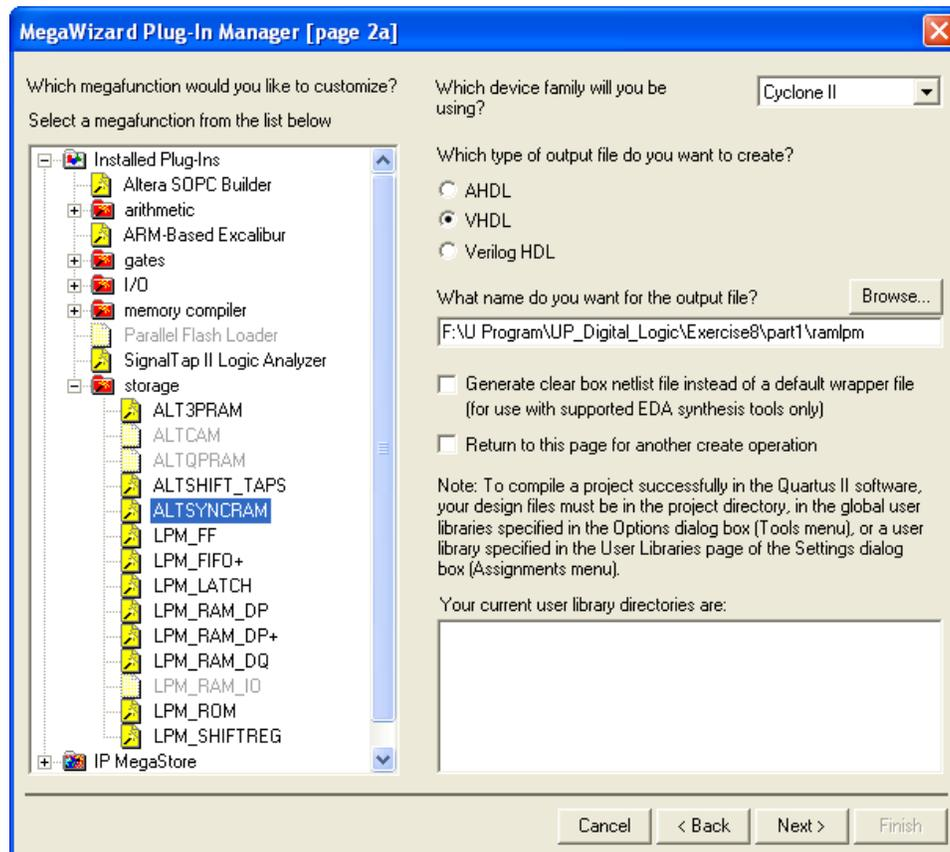
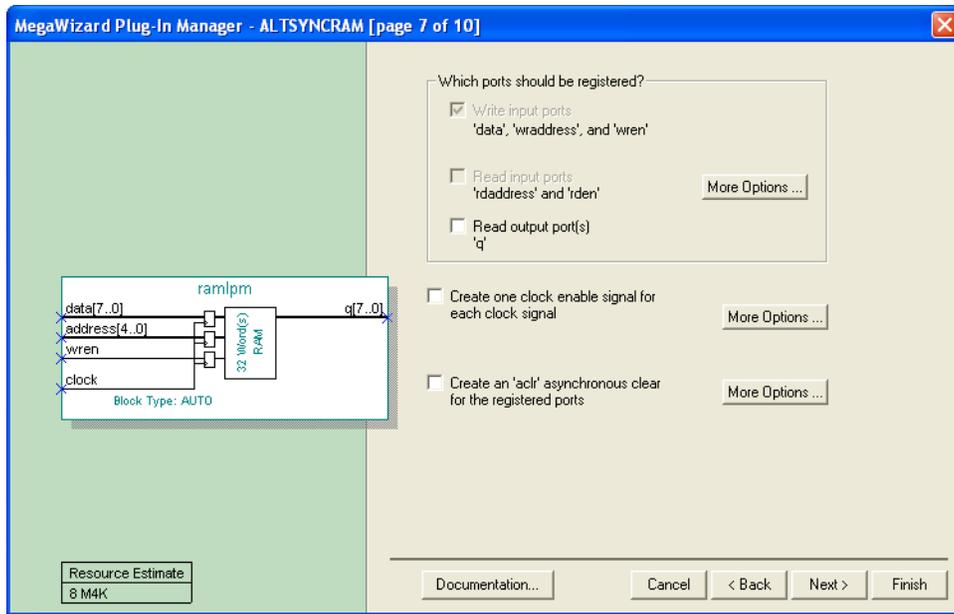

Figure 2. Choosing the *altsyncram* LPM.
Figure 3. Configuring input and output ports on the *altsyncram* LPM.
2. You can learn how the MegaWizard Plug-in Manager is used to generate a desired LPM module by reading the tutorial *Using Library Modules in VHDL Designs*. This tutorial is provided in the University Program section of Altera's web site. In the first screen of the MegaWizard Plug-in Manager choose the *altsyncram* LPM, which is found under the **storage** category. As indicated in Figure 2, select VHDL HDL as the type of output file to create, and give the file the name *ramlpm.vhd*. On the next page of the Wizard specify a memory size of 32 eight-bit words, and select M4K as the type of RAM block. Advance to the subsequent page and accept the default settings to use a single clock for the RAM's registers, and then advance again to the page shown in Figure 3. On this page *deselect* the setting called Read output port(s) under the category Which ports should be registered?. This setting creates a RAM module that matches the structure in Figure 1b, with registered input ports and unregistered output ports. Accept defaults for the rest of the settings in the Wizard, and then instantiate in your top-level VHDL file the entity generated in *ramlpm.vhd*. Include appropriate input and output signals in your VHDL code for the memory ports given in Figure 1b.